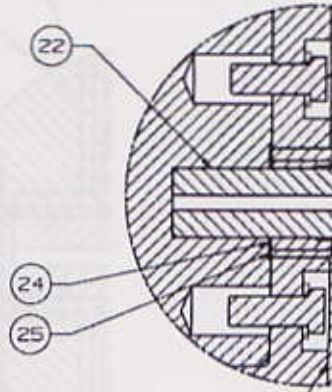

Figure 2
6. Install the one (1) Shear Pin, Lower VC Joint P/N SDG39135755-001, item 22 in Figure 2; Bushing, Inner SML VC Joint P/N SDG39135757-001, item 24; Bushing, Outer SML VC Joint P/N SDG39135757-003, item 25, into each of the four (4) VC Lower Interface Plates as shown on the Upper USS-02 Assembly drawing P/N SEG39135726-302.